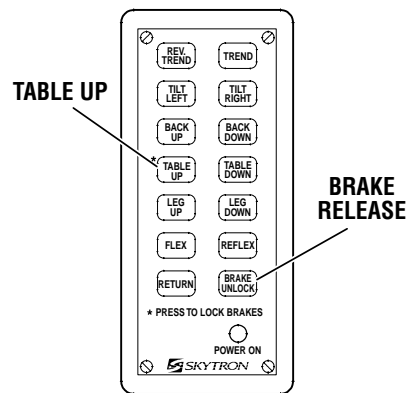

Figure 3-3. Brake System Activation
a. **Floor Lock/Brake System.** To activate the brakes without affecting table positioning, press the TABLE UP button. See figure 3-3. The elevation cylinder will not function until the brakes are completely extended.
Press the BRAKE UNLOCK button on the pendant control to release the four self-leveling brake feet in order to move the table. See figure 3-3. The brake delay circuit automatically retracts the brake system with just one press of the BRAKE UNLOCK button. It takes approximately 7-8 seconds to totally release the system.